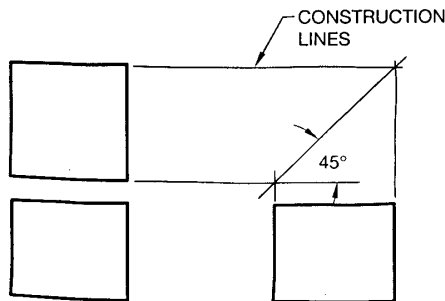

FIGURE 2.45 ■ Step 1, block out views.
- Step 1. Sketch and align the proportional rectangles for the front, top, and right side views of the object given in Figure 2.44. Sketch a 45° line to help transfer width dimensions. The 45° line is established by projecting the width from the top view across and the width from the right-side view up until the lines intersect as shown in Figure 2.45.